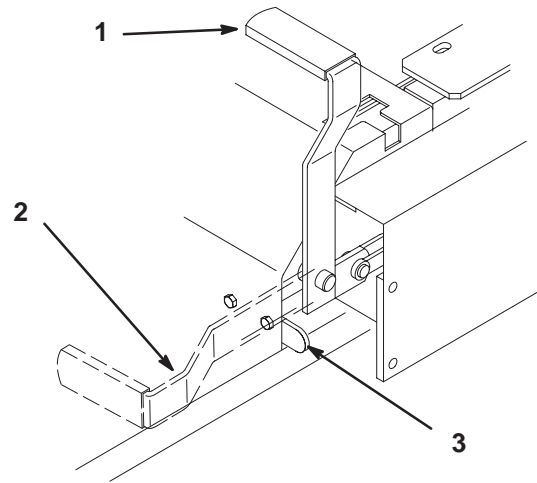

Figure 12
2. Pull back and up on the parking brake lever to set the parking brake (Fig. 12). The parking brake lever should stay firmly in the Engaged position.
Push forward and down on the parking brake lever to release the parking brake (Fig. 12). The parking brake is disengaged and the lever rests against the brake stop.